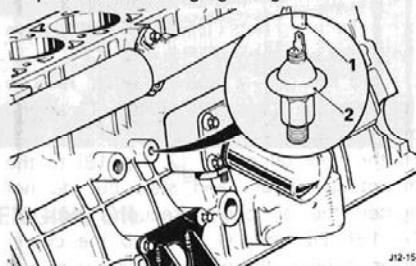
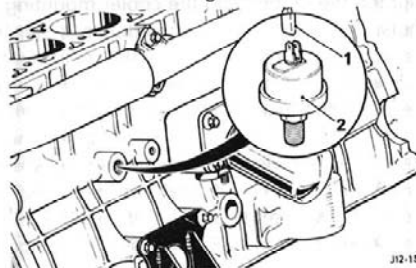

Fig. 15
Fig. 16
Remove the air cleaner element, disconnect the feed wire (1, Fig. 15, 16) and remove the switch (2, Fig. 15, 16).
**NOTE:** Oil pressure transmitter Fig. 16 and oil pressure warning light Fig. 15.